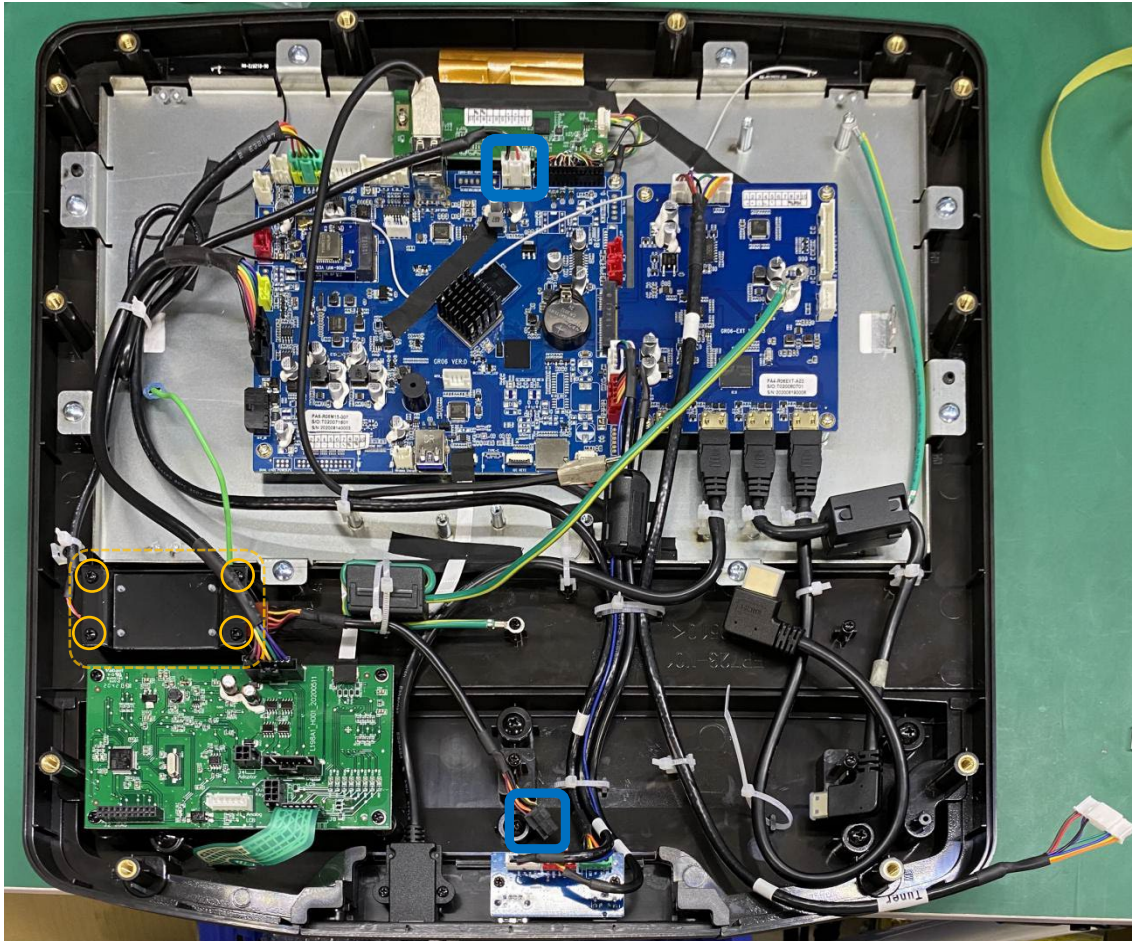

Figure 1
2. Loosen the connectors of the heart rate board from the TFT main board and the main frame (Fig. 1 blue box). Cut any cables tie as needed.